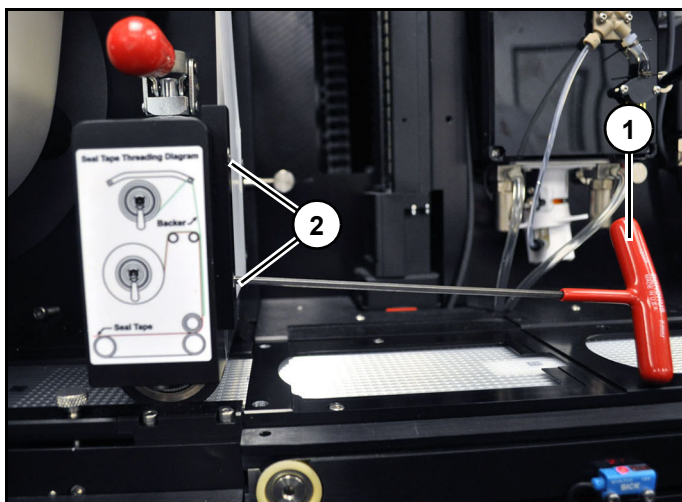

Figure 19
1. Using an M4 hex wrench (1), loosen four bolts (2) to loosen two clamps on seal guide. (*Figure 19*)